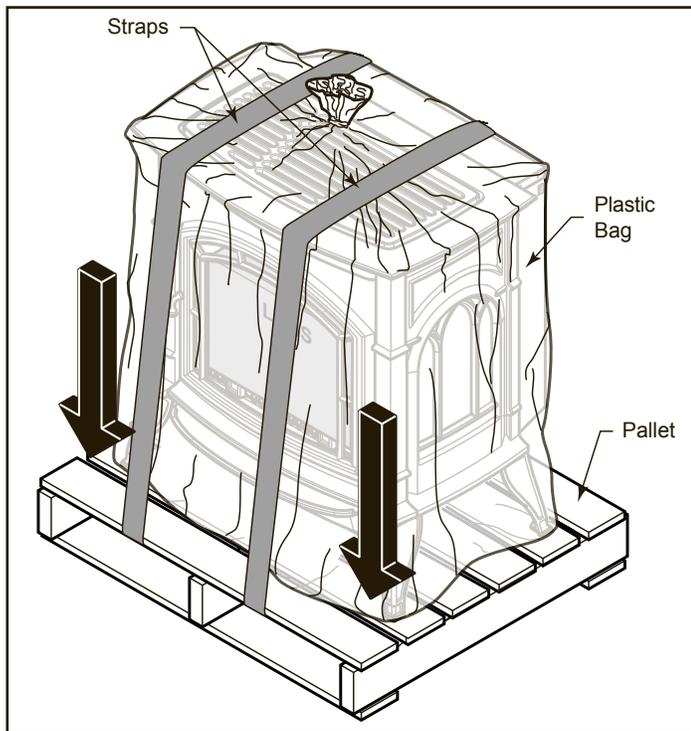

Figure 6 - Remove Straps and Plastic from Unit
1. Remove two (2) straps. Figure 6